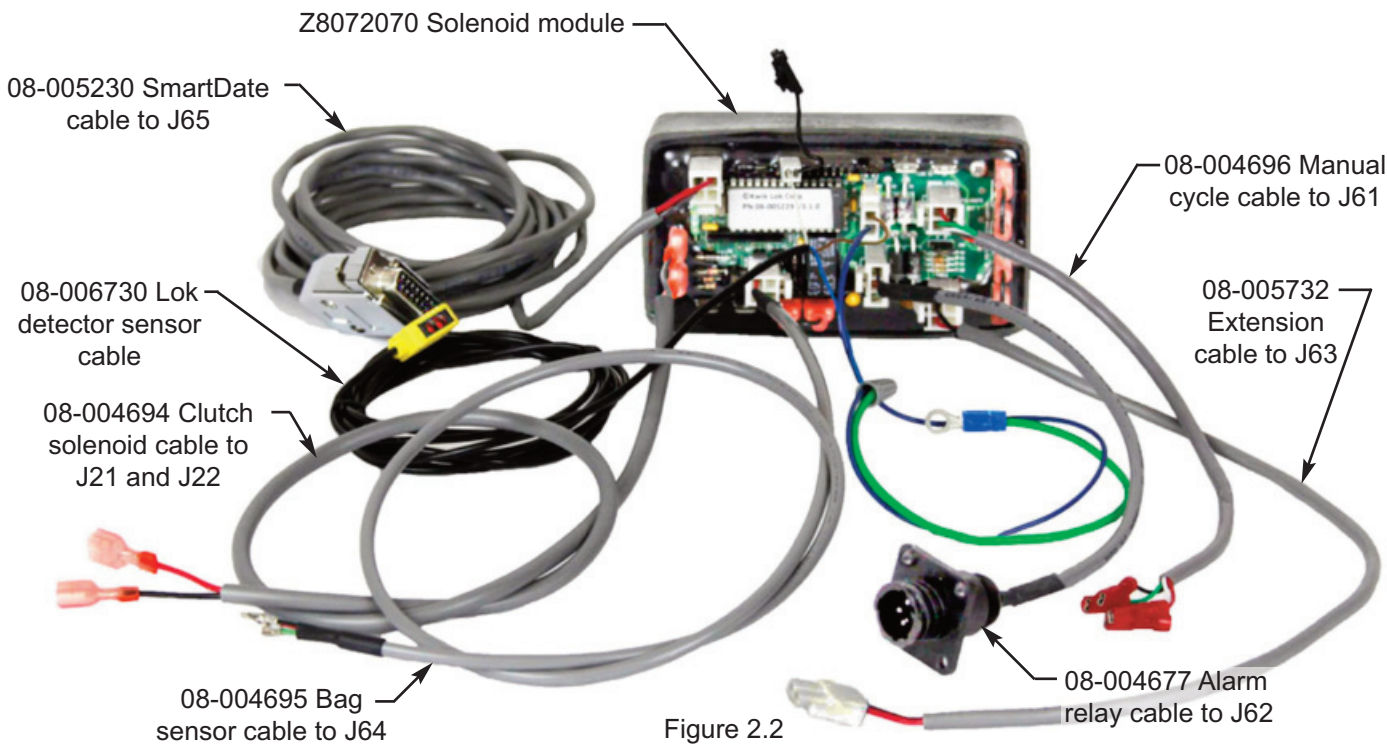

Figure 2.2
B. MODIFY THE CLOSER ELECTRICAL BOX: Figure 2.2 & 2.3
H. CONNECT CABLES: Figure 2.2, 2.3, 2.6 and 2.10